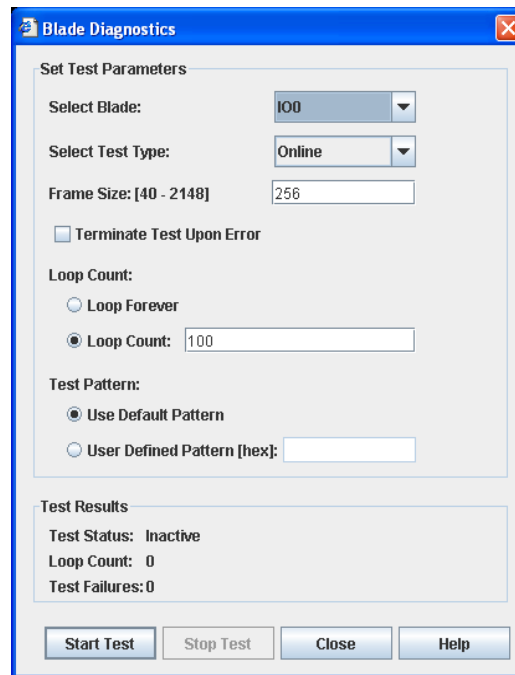

Figure 5-5. Blade Diagnostics Dialog
2. Open the Blade menu and select **Blade Diagnostics**, and select **Online Blade Diagnostics** or **Other Blade Diagnostics** to open the Blade Diagnostics dialog, shown in Figure 5-5. If you choose Online Blade Diagnostics, the test type available is Online. If you choose Other Blade Diagnostics, the test types available are Offline and Connectivity. Choosing Offline or Connectivity for the test type will prompt you to confirm that the blade be set to diagnostics mode and needs to be reset following the blade test.